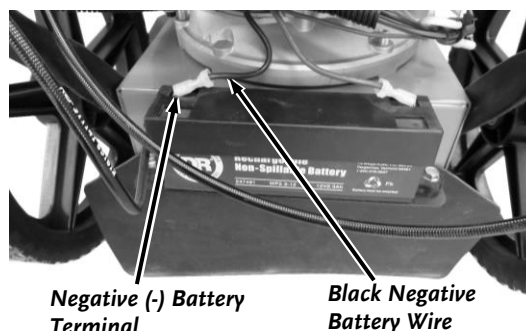

Figure 12
1. Connect the Black Negative Battery Wire by pushing the Connector onto the Negative (-) Battery terminal (**Figure 12**).